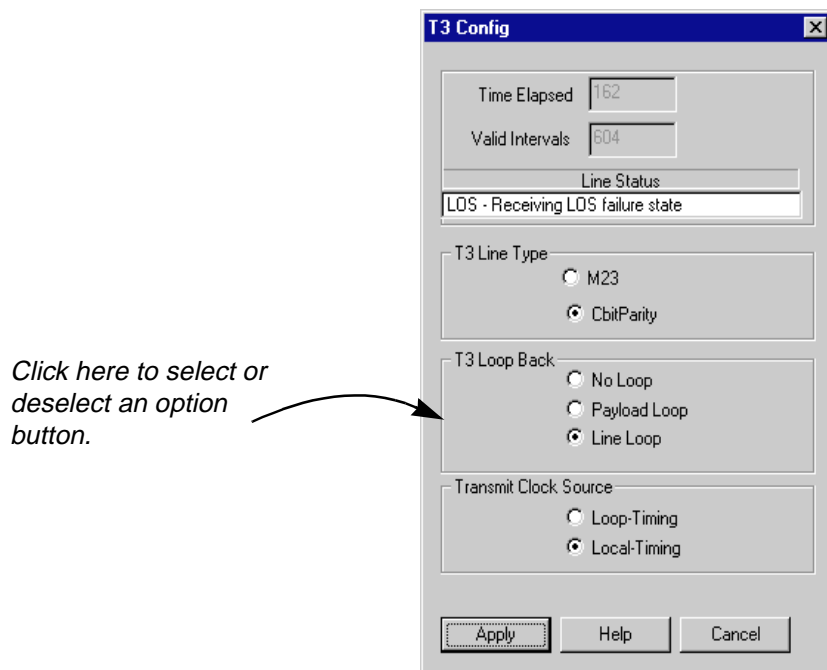

Figure 8-1. The T3 Config Window
2. Select **HSIW W87 Config (T3)**. The T3 Config window, Figure 8-1, opens.